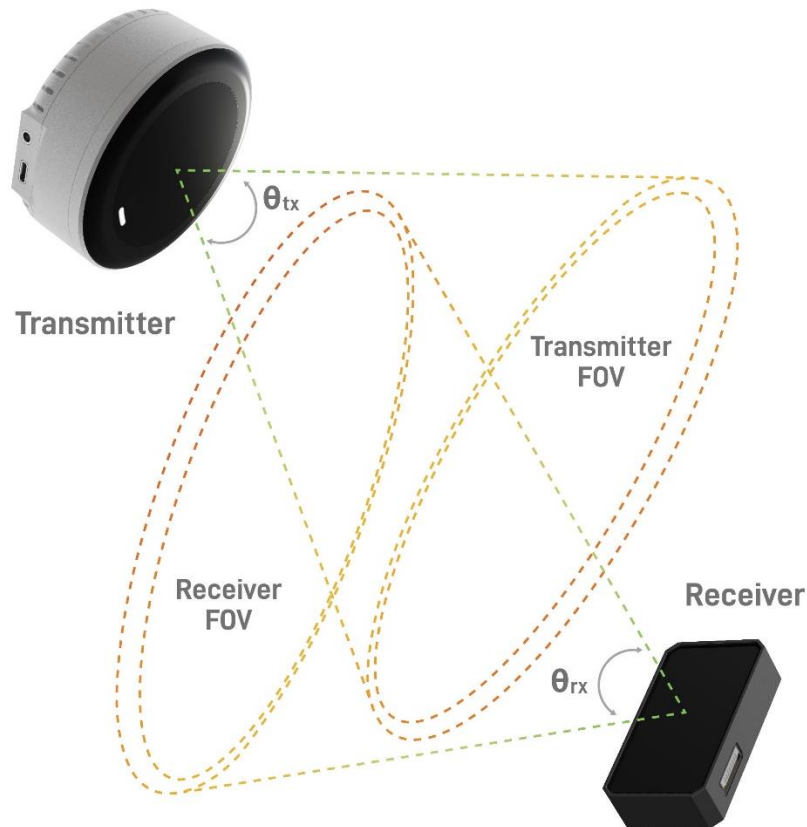

Figure 4 – Transmitter/Receiver Fields of View (FOV)
- 2) The orientations of both transmitter and receiver should be such that each is in the other's field of view (see Figure 4 below). Precise alignment is not required.